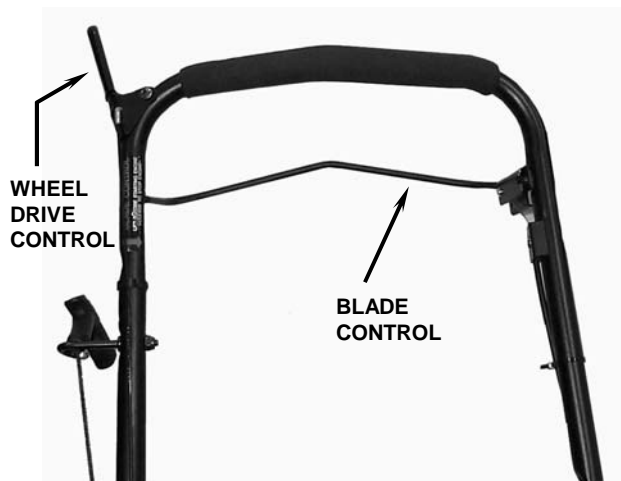

FIGURE 2.1
2.1.2. Check blade control and wheel drive control to insure they work freely. See Figure 2.1.
3. Move wheel drive control against handle to engage wheel drive and propel mower forward. See Figure 2.1.